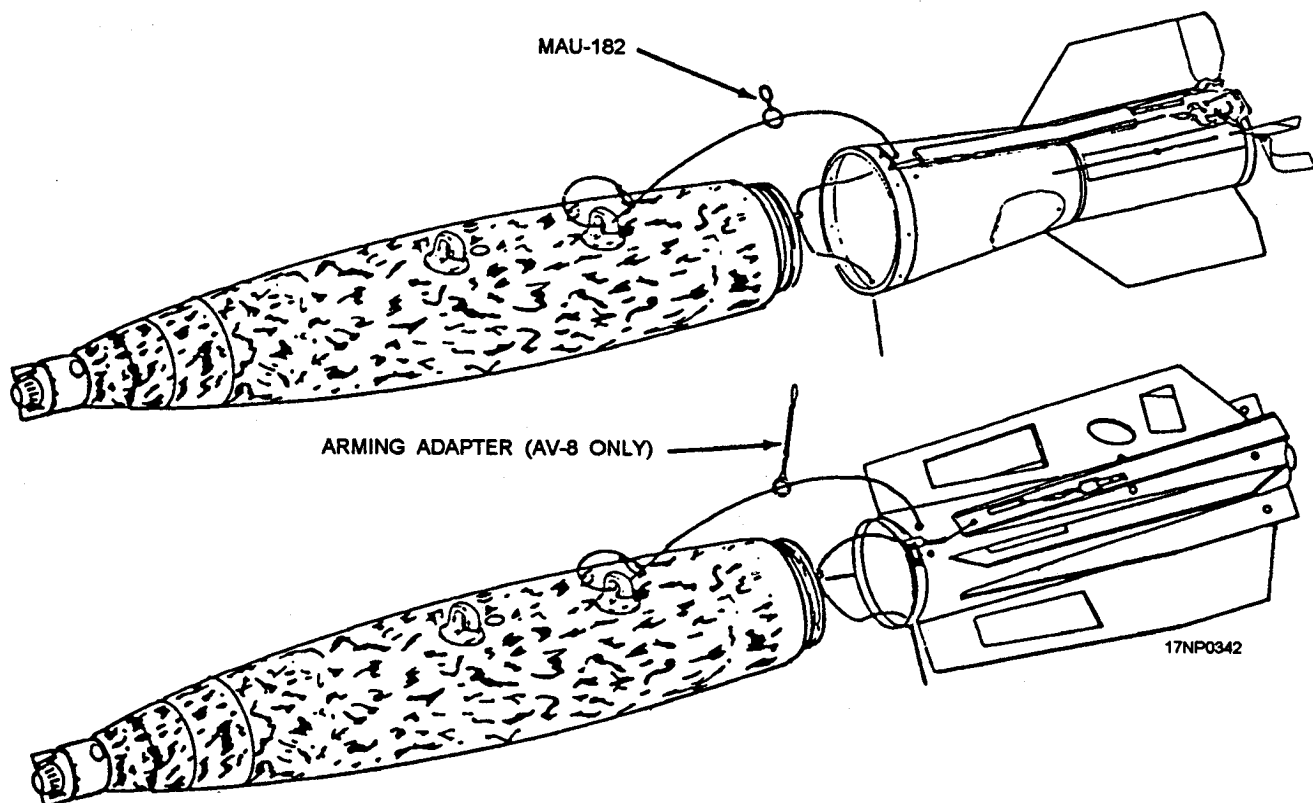

Figure 13-11.—Mk 3 arming wire and swivel loop installation.
1. Attach arming wire to aft lug (fig. 13-11). Thread free end of Mk 3 arming wire from aft bomb lug through MAU-182 swivel ring and arming wire hole in top of fin.